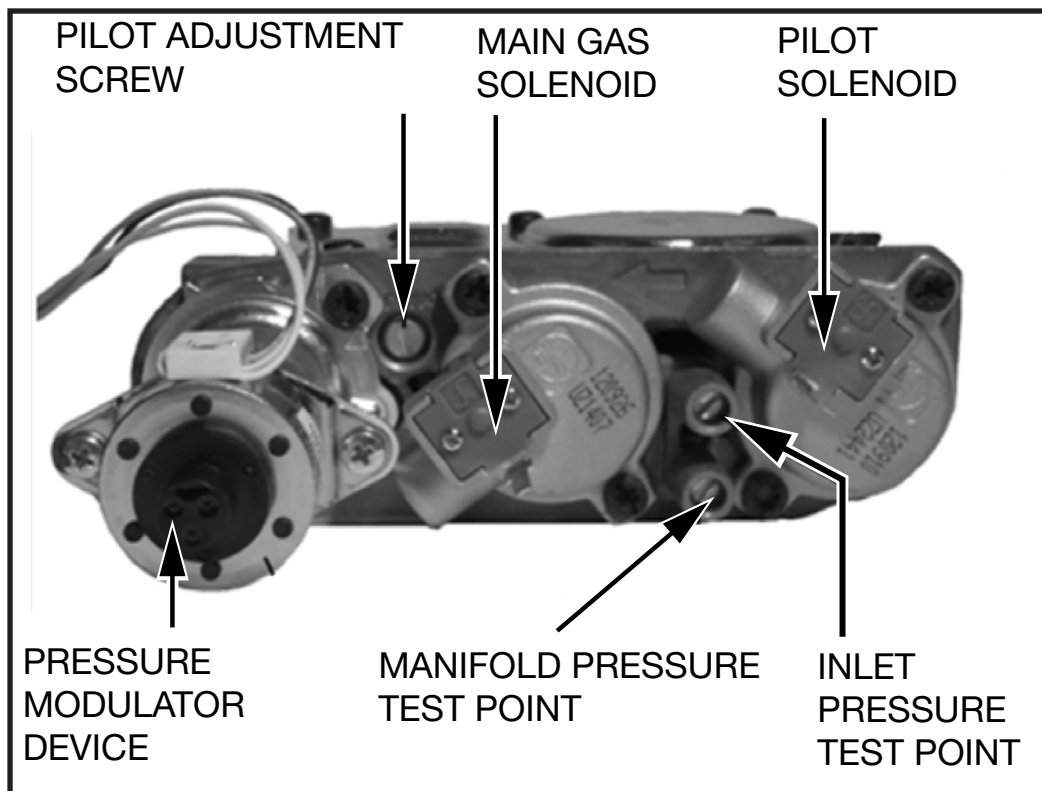

Figure 39: SIT gas control valve.
3. Locate the Inlet and Manifold test ports on the valve.(Figure 39). Using a screwdriver, loosen the screw in the port you want to test. Attach a tube, connected to a pressure gauge to the test port